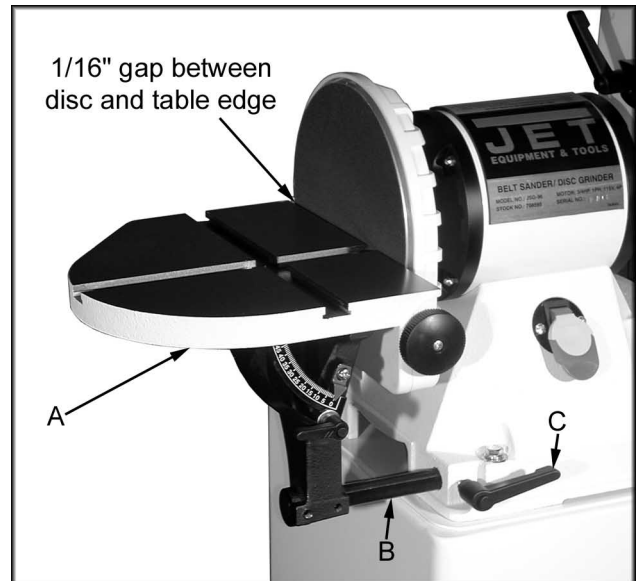

Fig. 1
2. Mount the sanding disc table assembly (A, Fig. 1) to the sander base. Insert the rod (B, Fig. 1) into the base and secure in place using the 5/16" handle (C, Fig. 1). The handle should tighten against the flat portion of the rod.